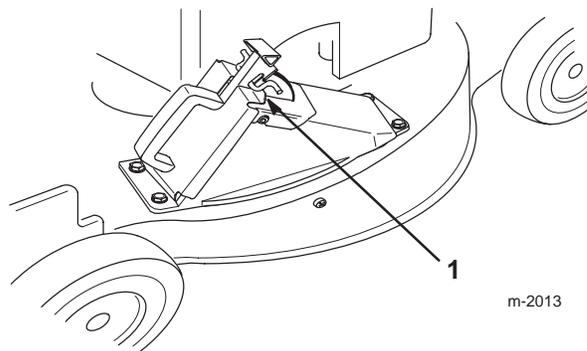

Figure 14
5. Release the door latch, allowing it to hook over the tabs on the plug (Fig. 14).